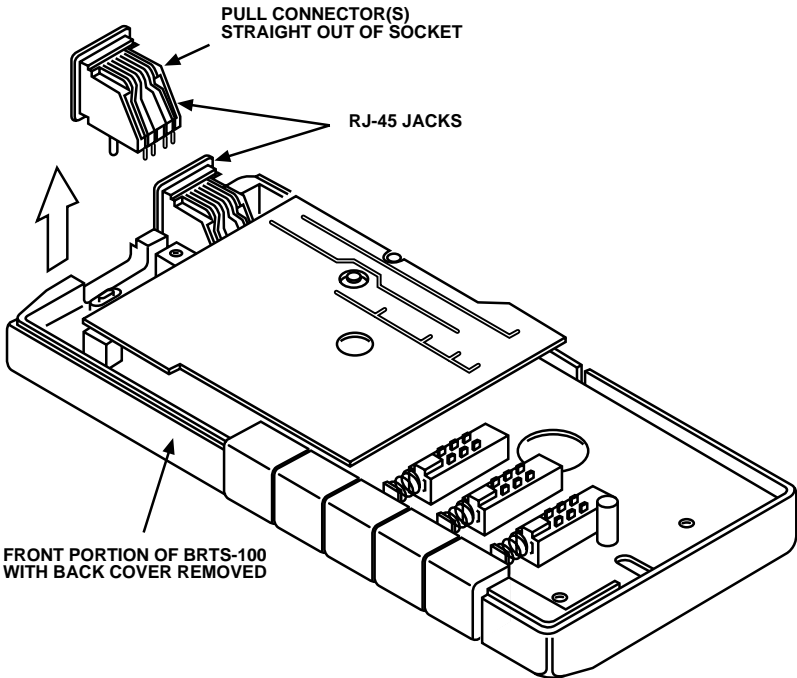

Figure A-2. Replacing the 8-Pin Jack Connector(s).
These connectors need to be replaced only when connections no longer permit a secure-tight connection or when connectors are damaged. In standard use, however, these connectors shouldn't ever need to be replaced. Follow these steps and see Figure A-2.
2. Gently lift off the back cover to expose the inside of the unit. Remove the damaged connector(s) as indicated in Figure A-2.
3. Secure the new jack connector to the Test Set as indicated in Figure A-2.